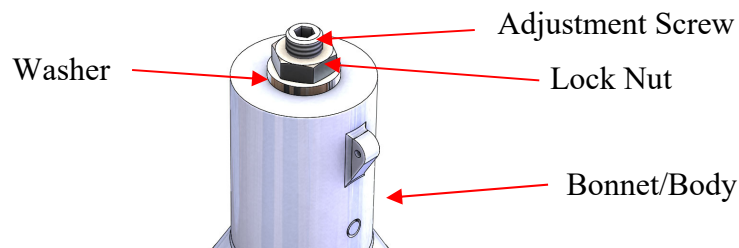

Figure 42: Upper Bonnet Components
2. Loosen the lock nut from the adjustment screw. See Figure 42.